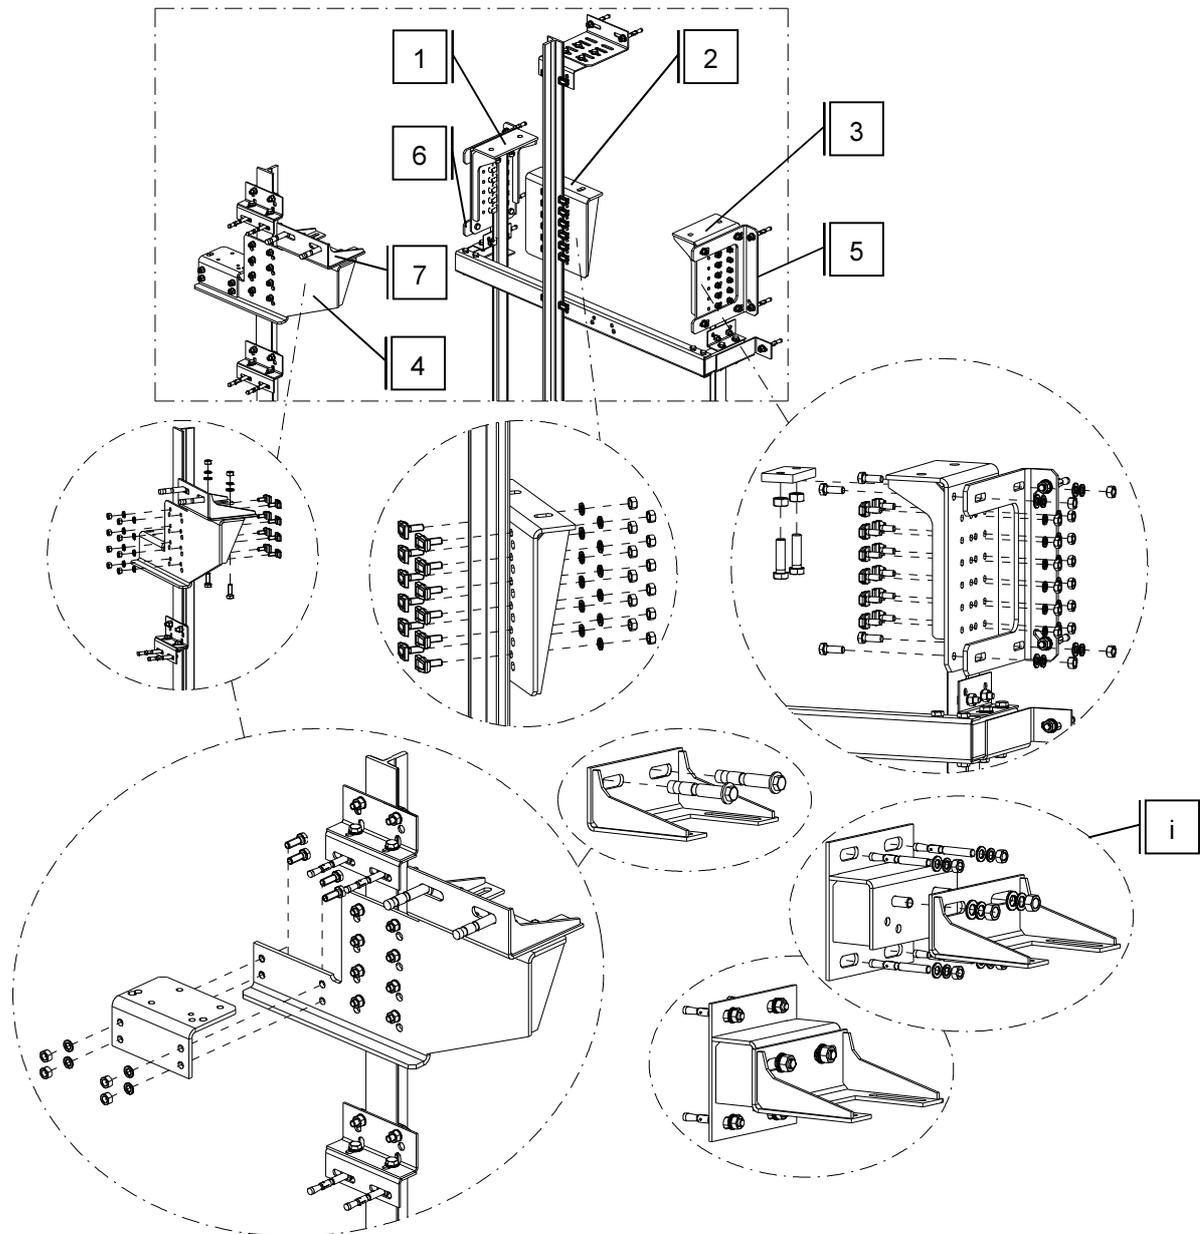

FIGURE 10
Place the base (1) at the guide rail and align it. Then, place the base (2) and align it at the same level as base (1). Likewise, align base (2) with base (3). The upper part of machine bases (1,2,3) must be at the same level. Afterwards, secure the rope suspension and overspeed governor base (4) – on top of the guide rails with forge clips (figure 10). In figure (11) the exact location of all four bases is determined. Dimensions a, MLB, b, c, d, e, WLB, f can be found at the accompanying installation drawings.
The machine base wall brackets (5, 6) and the suspension base strengthening (7) are plugged to the shaft concrete, with heavy duty anchors M12X120, which are supplied by the manufacturer (figure 10).